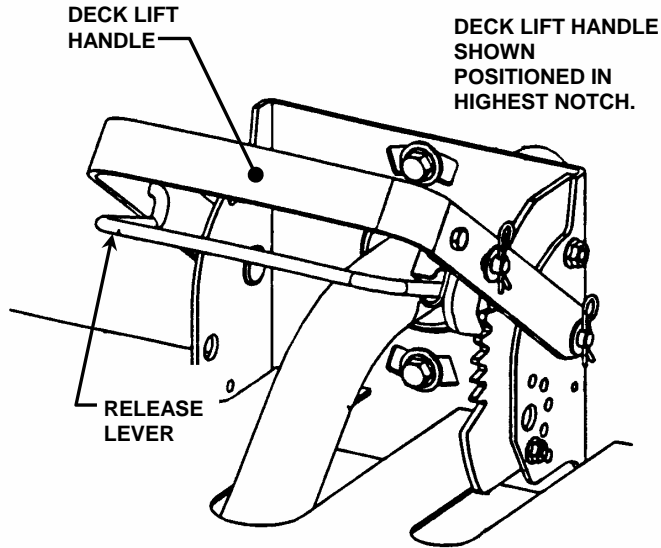

FIGURE 3.3
- a. Pull deck lift handle to highest cutting position. See Figure 3.3.